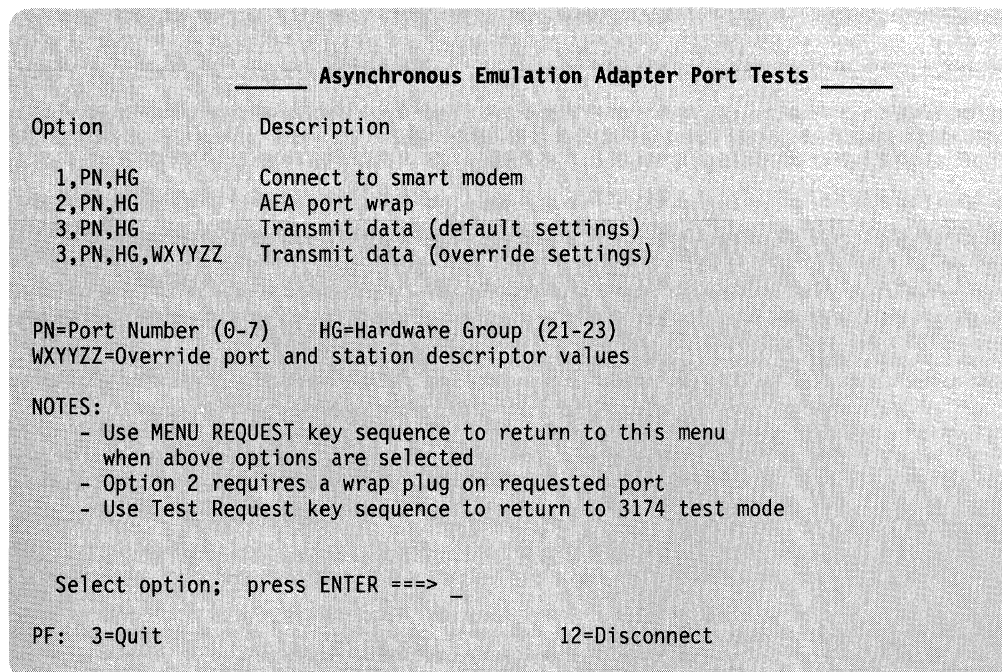

Figure 3-31. Asynchronous Emulation Adapter Port Tests Menu
**Option 1:** Displays the Asynchronous Emulation Adapter Port Tests menu, from which you can select a specific terminal, port, or smart modem to test. See Figure 3-31 on page 3-45 for an example of the test menu.
**Test 12, Option 1:** This test option shows the Asynchronous Emulation Adapter Port Tests menu, from which you can select a specific terminal, port, or smart modem to test. See Figure 3-31 for an example of the test menu.